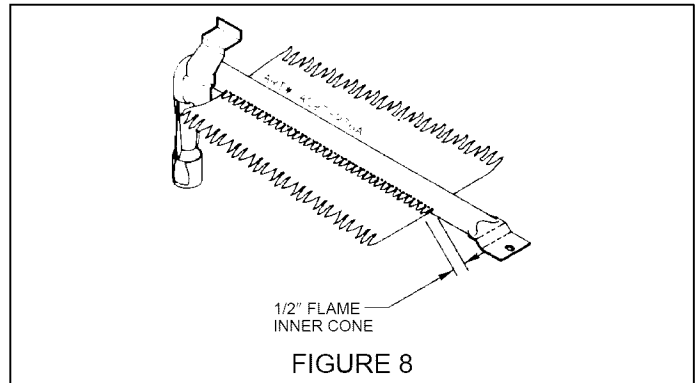

FIGURE 8
- a. The approximate length of the flame of oven burner is a 1/2 inch distinct inner blue flame, figure 8.